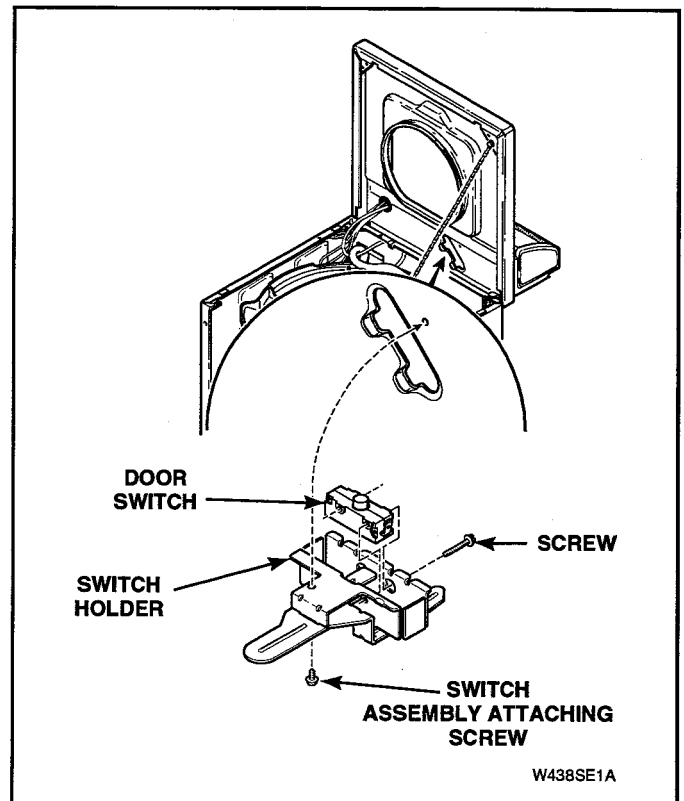

Figure 5-27
- Remove screw holding door switch assembly to underside of cabinet top. See Figure 5-27.
- Remove two screws holding switch to switch holder. See Figure 5-27.